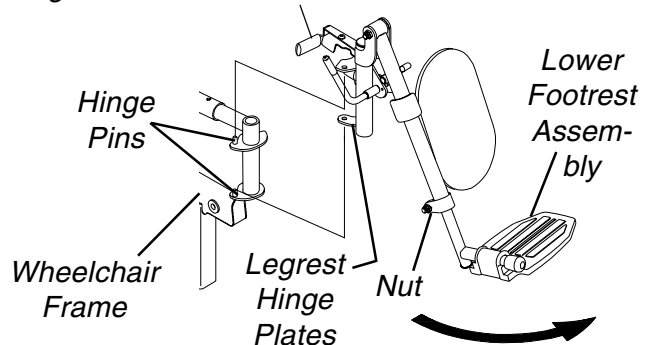

FIGURE 5- INSTALLING/REMOVING ELEVATING LEGRESTS
**INSTALLING/REMOVING ELEVATING LEGRESTS (FIGURE 5)**